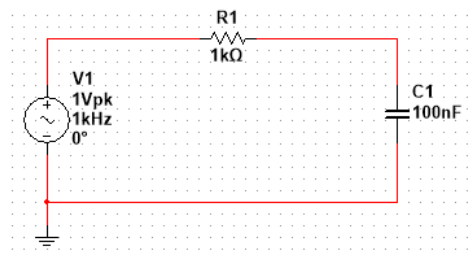

Figure 4. RC circuit.
- Rotate the capacitor by 90°, arrange the components, and connect them as in Figure 4. (Use the methods you learned in Activity 1.)
1. Open the original RC circuit you had saved before (Figure 4).